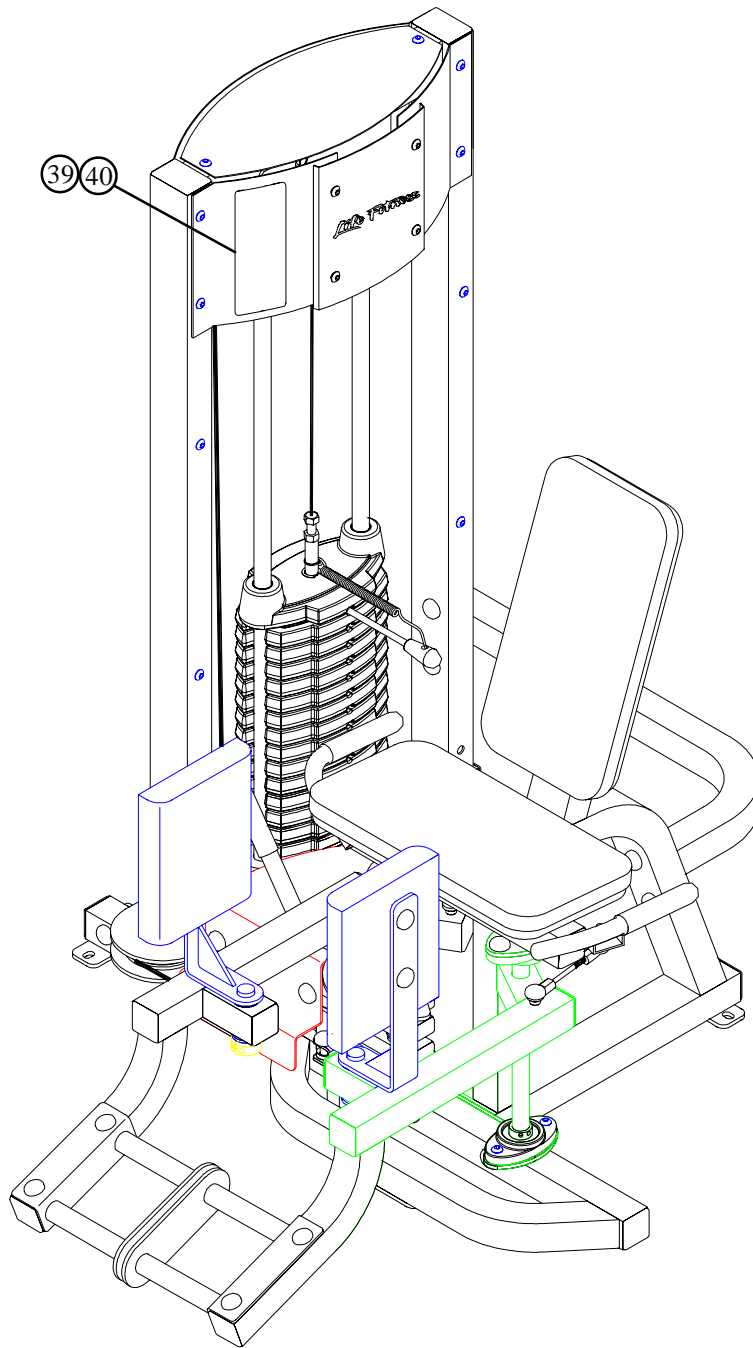

FIGURE 26
- Assemble the PLACARD LABEL (39) or the FOREIGN LANGUAGE PLACARD LABEL (40) to the FRONT SHROUD as shown in FIGURE 26.